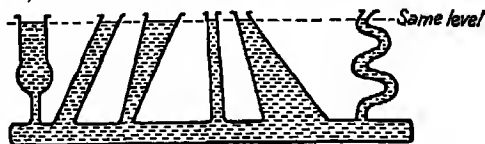

FIG. 199.
**Expt. 251.** Fit up the apparatus as shown in Fig. 199. It consists of a number of glass vessels of various shapes all connected by tubes.